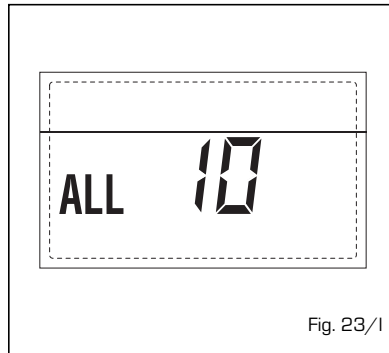

Fig. 23/l
- **ACTIVATION OF THE EXHAUST FUMES SENSOR ERROR 13** (Fig. 23/p)